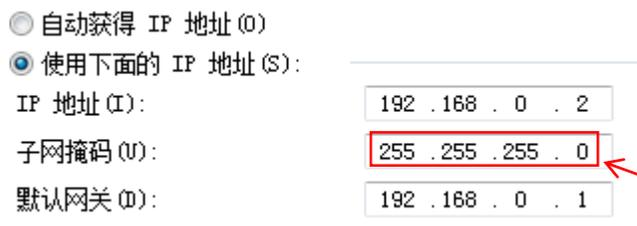

Figure 8.1.2
② After left-clicking, select the option shown in Figure 8.1.2 on the popup screen.